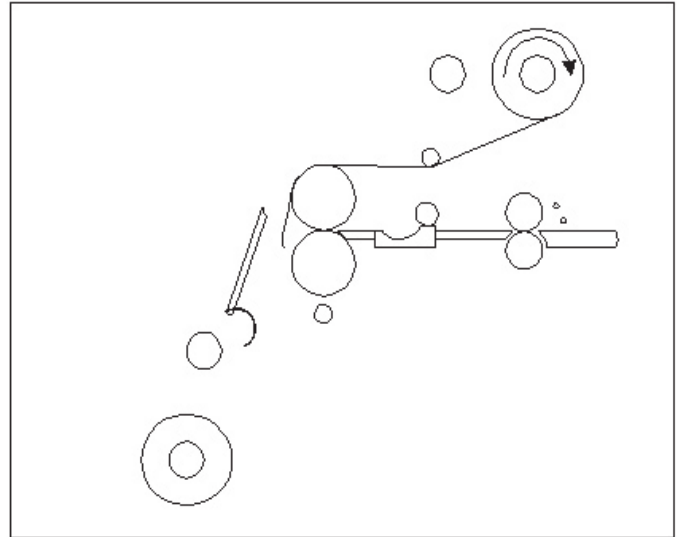

Fig 24
This procedure describes how to load the upper roll of film onto the laminator. Figure 24 uses poly-in film and the upper rear unwind/rewind position for illustration purpose.
1. Turn the **Power ON/OFF (I/O)** to **ON (I)**. Set top heat temperature for the film type you are using.
4. Pull the top roll of film down under the idler bar and allow to drape over the top heat roller (Figure 24).